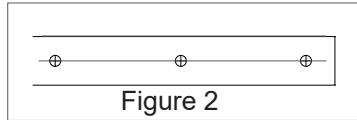

Figure 2
3. Adjust the placement of the hanger for a 2-3/8" gap between the top of the door and the bottom of the wheel. Ensure the side of the hanger at the top of the door is resting 2" from the edge of the door (Figure 2).
4. Mark the center of each installation hole with a pencil (Figure 2).
3. Hold the track up to where the pencil line is visible through the holes in the track. Mark an intersecting line in the center of each hole (Figure 2).